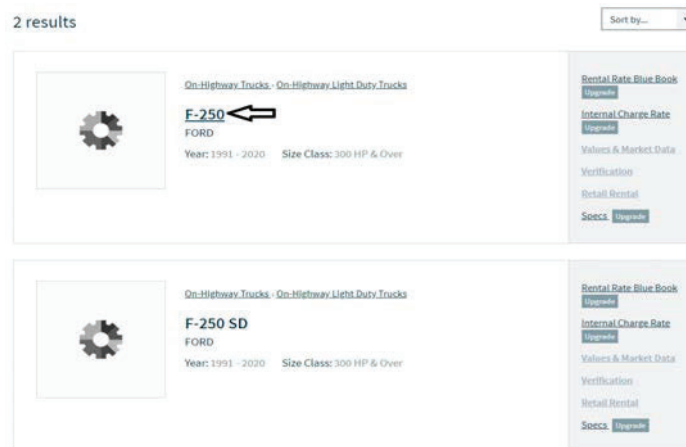

Figure 4-10: EquipmentWatch Search Results
- ii. The Results of the Search display. Click on the equipment item that best matches your inquiry (Figure 4-10).